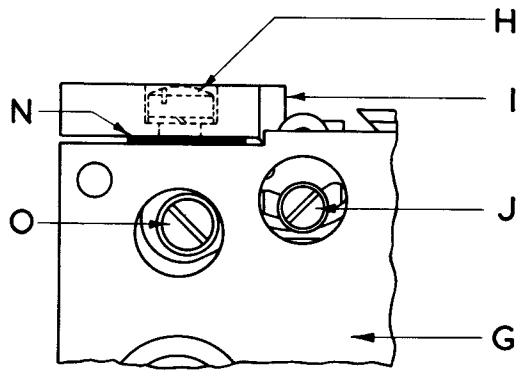

FIG. 9
7. Remove the fixing screws from each end of the pecker levers mounting bracket I, Fig.9, and ease the bracket assembly off the shaft. Note any shims N at the bracket mounting points. If it is thought desirable to dismantle the assembly, the method will be obvious. When reassembling, return each part to its original position.